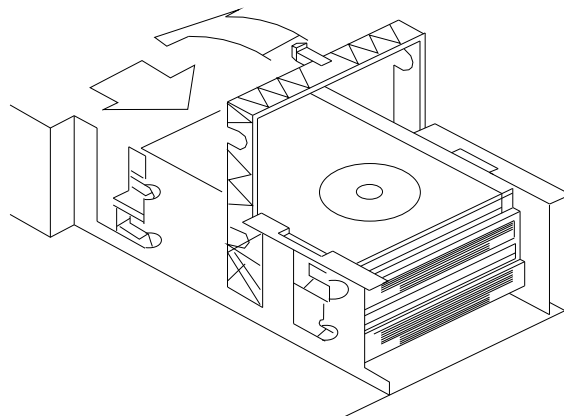

Figure D-28: Internal Hard Disk Drive — Bracket Handle Motion
8. Push the handle down towards the back of the drive (opposite of the SCSI connector). See Figure D-28. As you lower the handle, the drive will slide slowly towards the connector.